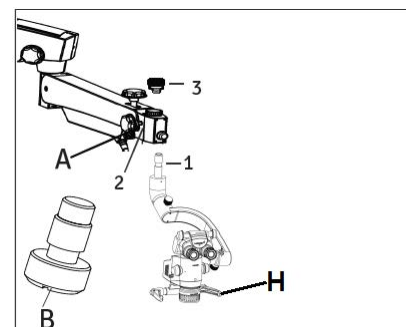

Fig. 39
4. Retrieve the inclined coupler with magnichanger from the packing and follow as below referring Fig.39.
- Install the coupling to the suspension arm by sliding the guiding shaft (1) into the suspension arm.
- Lock the inclined coupling with the threaded plug (3).
- Ensure magnichanger handles (H) have silicone covers.
CAUTION: Make sure that safety screw (B) must tight in place at position (2) to avoid sudden falling of the coupling. Safety Screw always tied with the Carrier arm locking knob A. Fig. 39